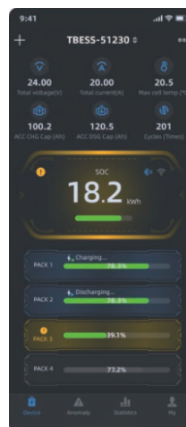

Figure 3
3)Figure 3: When the device is abnormal, click on the abnormal information (blue alarm, yellow protection, red fault indicator) to jump to the **"Abnormal"** page to view details.